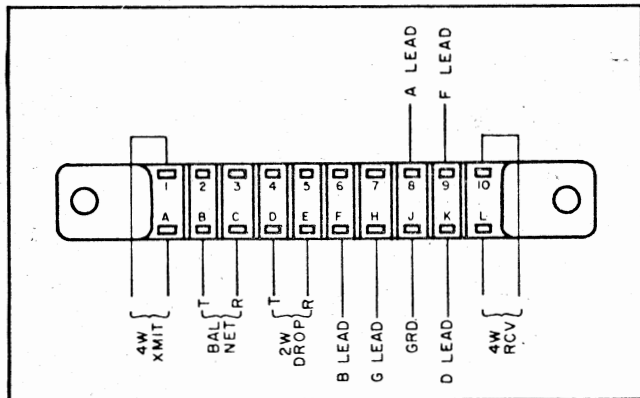

Fig. 2
ceiving lines to the 2-wire trunk for developing various arrangements for signalling. See Fig. 2.
2.03 Cabling between the wire wrap connectors on the 781 or 782 mounting shelf and the drop equipment can be accomplished by referring to Fig. 2 and Table A. See paragraph 6 regarding connector wiring when 4-wire bypass units are required.
5.04 If a precision network is specified on the job order, the "COMP NET" strap should be removed. Cabling from the external precision network to the term set is made on the rear wire wrap terminal strip of the term set plug-in connector. These terminals are designated BAL NET in Table A, Fig. 2.